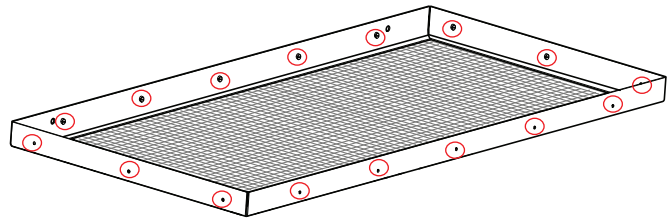

FIG 2:
- Remove glass from door frame. **(FIG. 2)**
- B. Remove the 10 top and bottom screws and the 6 side screws. **(FIG. 2)**
- B.** Remove screws from lower brackets and remove front lower panel (4, 5). Then remove screws from upper brackets (6, 7) and remove front upper panel (**FIG.2**).
- E.** Slide front upper panel into smoke chamber then front lower panel and install brackets. (**FIG.2**)